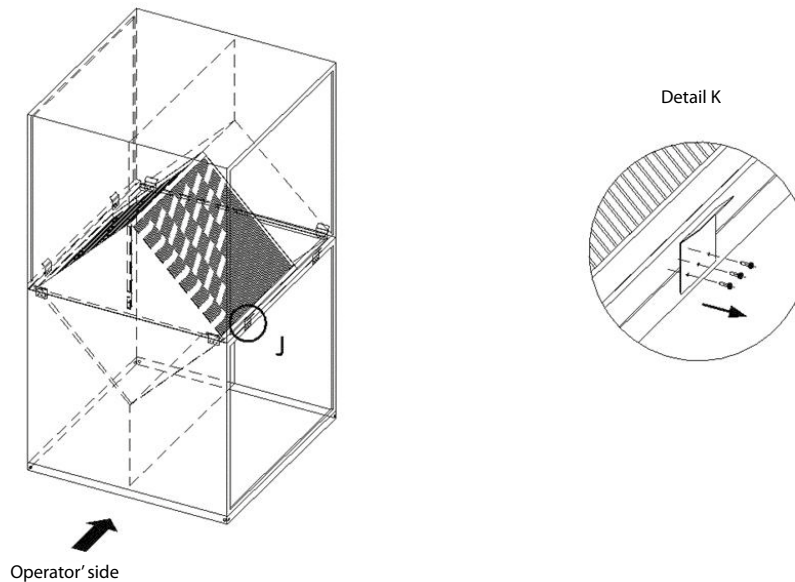

Figure 14 – Removal of guiding bars
- Remove 3 pieces of M8 bolts, see Figure 14, Detail J